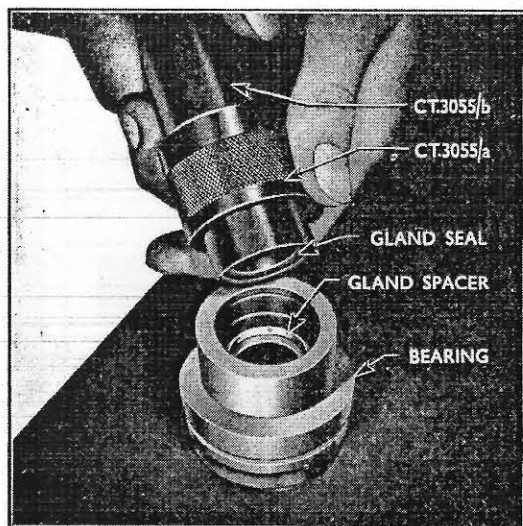

Fig. 10
5. Fit the gland spacer, flanged end first, to the bore of the piston rod bearing. Carefully install a new gland seal, flat face first, in the bore at the small end of CT.3055/a, the outer part of Tool CT.3055. Fit the inner part (CT.3055b) of the tool, insert the tool with seal into the bore of the bearing and press the seal onto the gland spacer. (See Fig.10.)